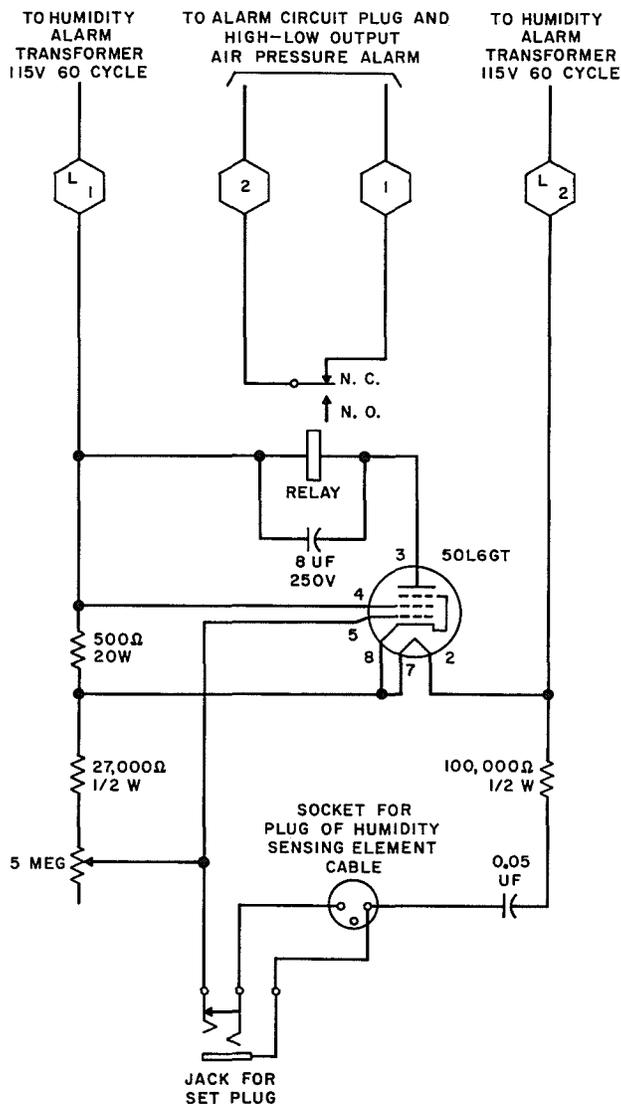

Fig. 8—Humidity Alarm Relay Assembly—Schematic Diagram
4.25 The humidity alarm (Fig. 8), designed to operate if the relative humidity of the air passing through the manifold exceeds 10 percent at 70°F, shall be checked at 3-month intervals, as follows: